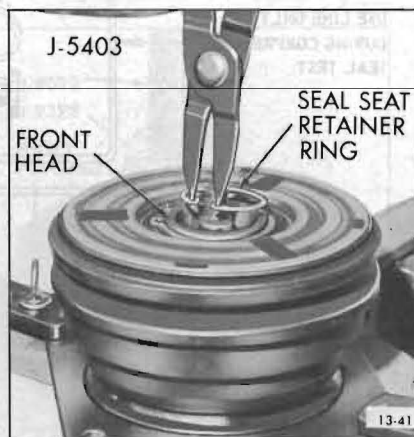

Figure 13-40—Removing or Installing Retainer Ring in Clutch Drive Plate
4. Using No. 21 truarc pliers (J-5403) take out retainer ring from hub of clutch drive plate (see Figure 13-40). Lift out spacer.
9. Reassemble retainer ring into hub of clutch drive plate (see Figure 13-40) using No. 21 truarc pliers (J-5403).